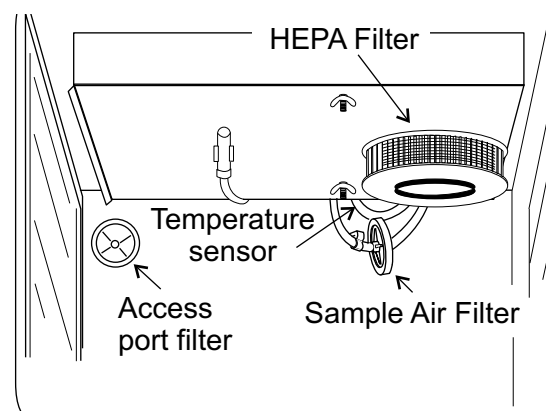

Figure 1-9. Filter and Sensor Locations
Locate the opening in the top left corner on the inside of the chamber. Remove the tape covering the opening on the outside of the unit. Locate the stopper with filter in the hardware bag. Install the assembly in the opening inside the chamber. See Figure 1-9.
3. Install the filter as shown in Figure 1-9.